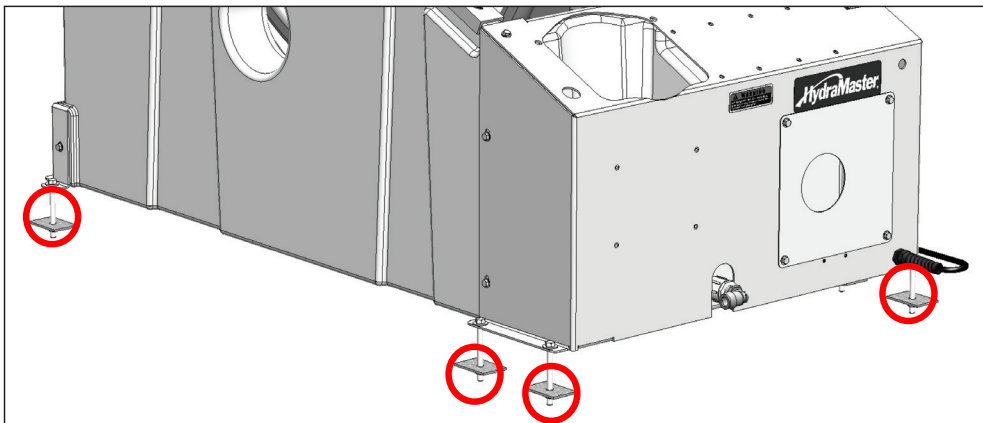

Figure 60. Install and Tighten 6 Tie Down Cleat Washers
8. Install and tighten the 6 tie down cleat washers to the underside of the van (see Figure 60).